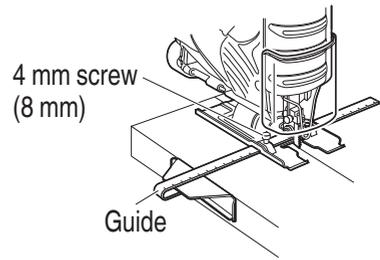

Fig. 6
- (1) To ensure accurate rectilinear cutting, employ the optional accessory guide as shown in **Fig. 6**.